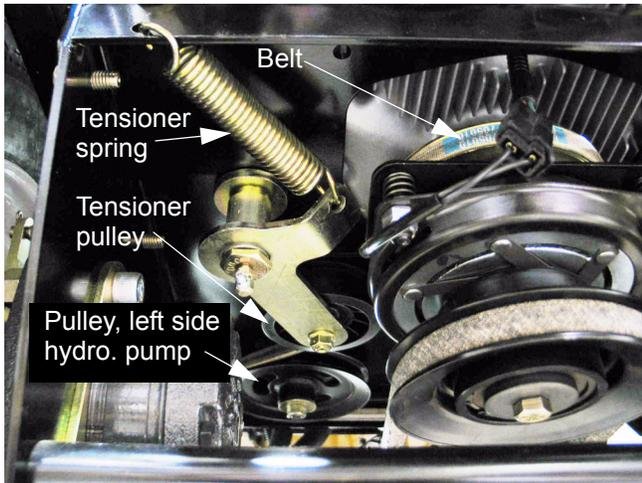

Figure 24.3
- 24.3. If the performance of the right side drive system is suspect, pay particular attention to the belt and tensioner. There is more belt wrap on the left pump pulley than the right because the tensioner is on the left side of the frame. See Figure 24.3.